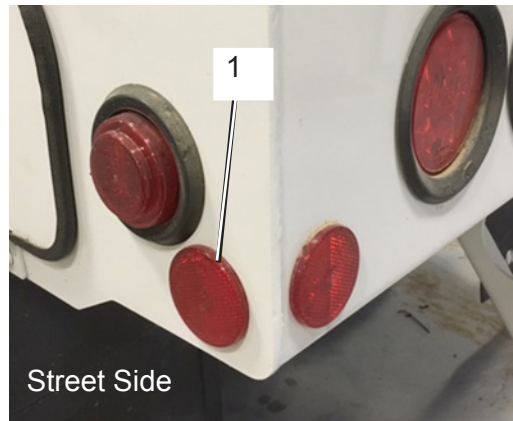

Figure 3
2. Install that reflector on the street side facing rear corner of the CNG tailgate (Figure 3), as close to the rear corner as practical.